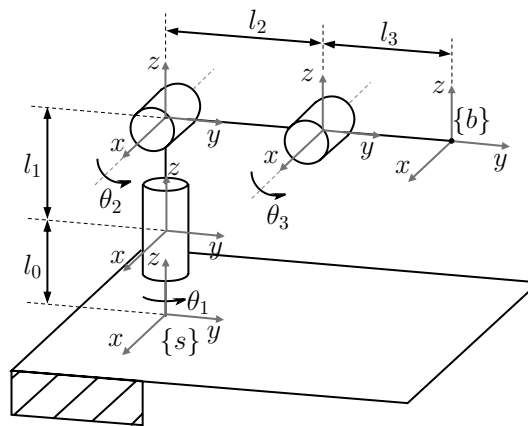

Figure 2: A 3R spatial robot at its home configuration.
- Write a URDF (Universal Robot Description Format) file when the robot is at its home configuration as shown. A sample URDF file corresponding to a 3R spatial robot shown in Figure 2 is attached for your reference (you can open and edit an URDF file using any text editor like Notepad or, for better representation of the code, Notepad++).